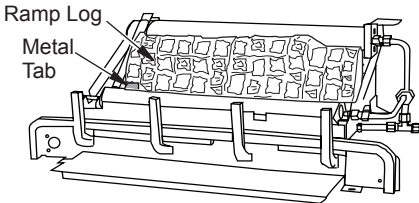
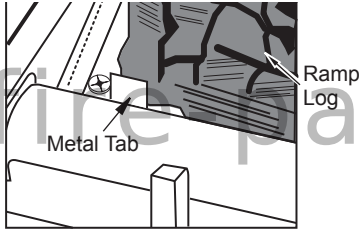

Figure 24 - Installing Fiber Ramp Log
Figure 24a - Installing Ramp Log
1. Place fiber ramp log in center of chassis as shown in Figure 24. The fiber ramp log can be identified by the shape and much lighter weight when compared to the other logs. The log must sit flat on the black sheet metal and behind the left metal tab as shown in figure 24a. Make sure the side marked "BOTTOM" is setting down.